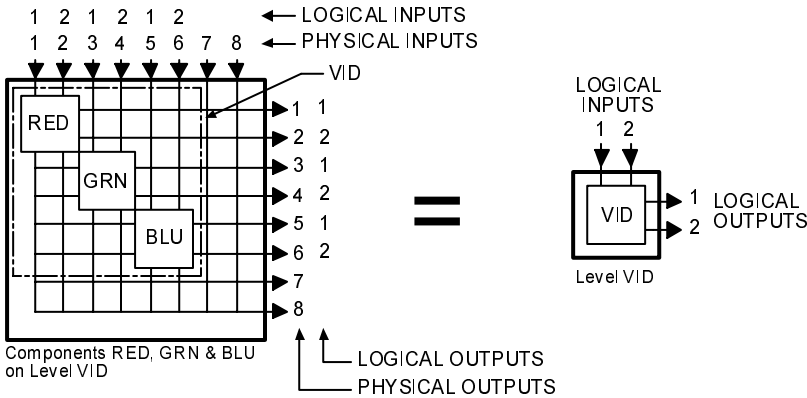

Figure 16 A 2x2 RGB Level
A level is a group of related components that are switched together by Win3500Plus. The example shown in Figure 16 is a 2x2 RGB video level named VID which is made up of three components named RED, GRN and BLU.
2. Enter the level name in the **Level Name** box. Level names are one to eight characters in length and are constructed using uppercase letters, numbers, and spaces. The first character must be a letter. For the example shown in Figure 16, “VID” would be used.
3. Specify the **Number of Inputs** and **Number of Outputs** for the Level. The maximum number of inputs or outputs per level is shown in Table 1 on page 1. The inputs and outputs referred to here are logical inputs and logical outputs. For the example shown in Figure 16, “2” and “2” would be used.